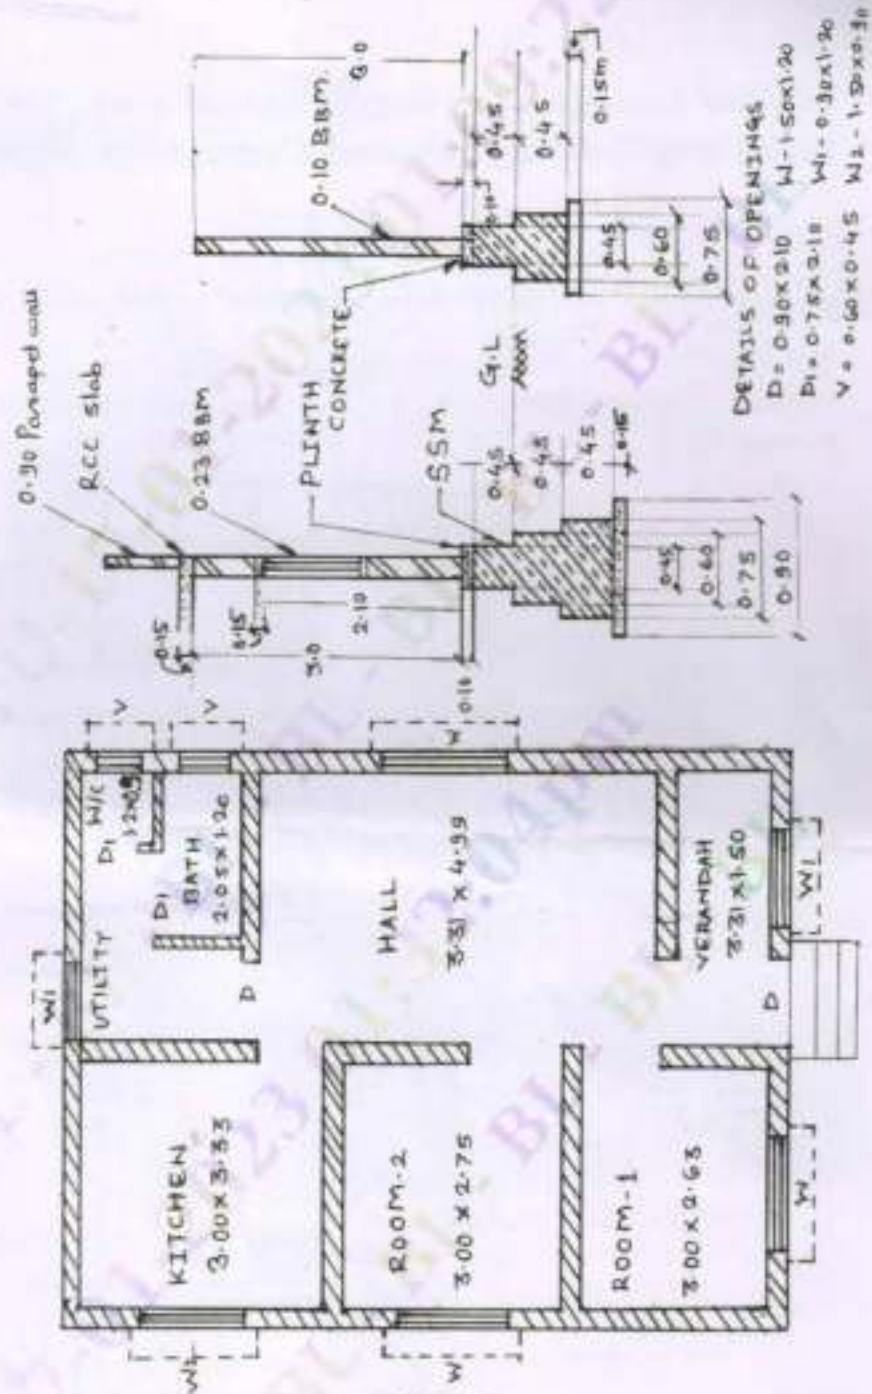

Fig.Q2
- 2 The details of residential building is shown in Fig.Q2. Estimate the quantities and the cost of the following items of works.